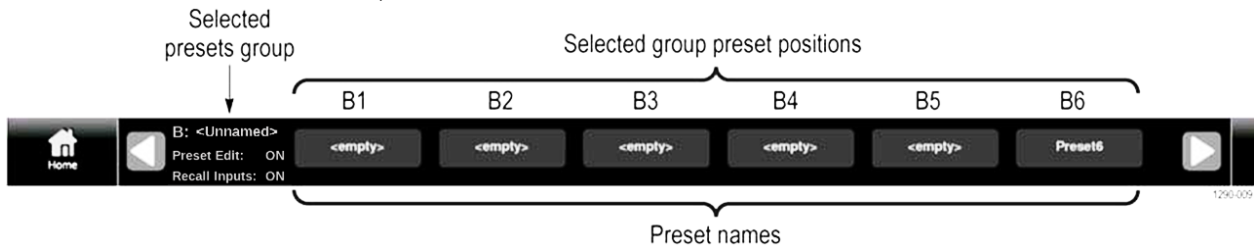

Figure 80: Preset selection controls (Group B shown)
1. Select the **Presets** icon () to open the Preset selection menu. (See Figure 80.)